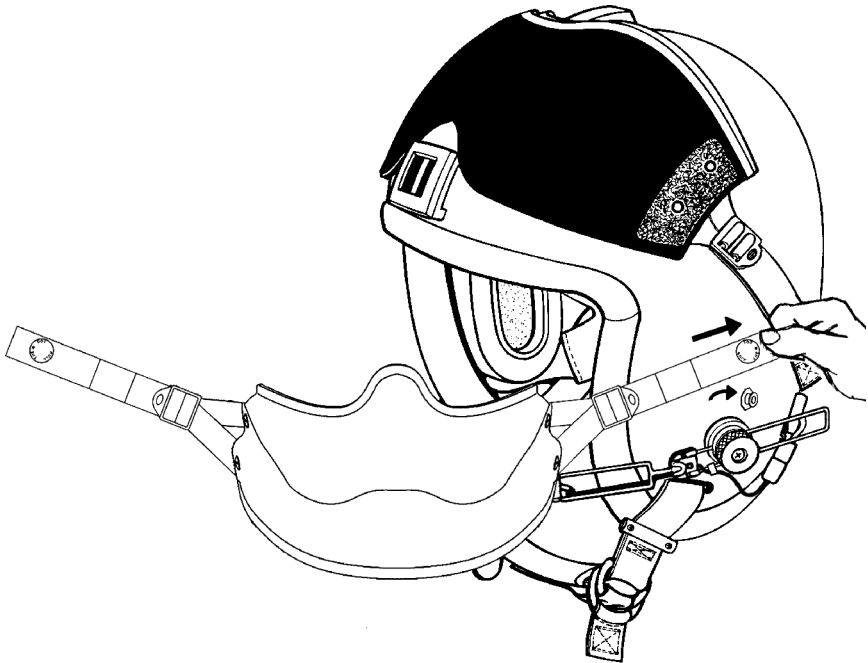

Figure 8. Attaching Maxillofacial Shield
3. Referring to **Figure 8**, attach the maxillofacial shield to the helmet by fastening its snap to the newly installed snap from *front to back*. Repeat for the other side.